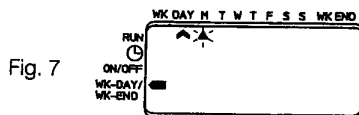

Fig. 7
- ii) A day of Week indicator will now flash against MONDAY (M) and the WEEKDAY symbol will be shown (see figure 7).